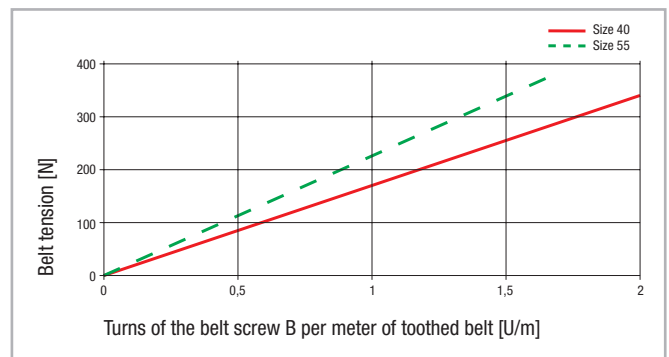

Fig. 87
2. Figures 87 and 88 show how many turns the belt tensioning screws B must be for the required belt tension deviation.
2. Figures 87 and 88 show that the value by which the belt tensioning screws B must be turned to increase the belt tension by 110 N is 0.5 turns.